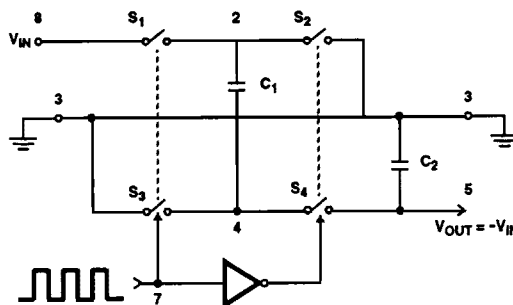
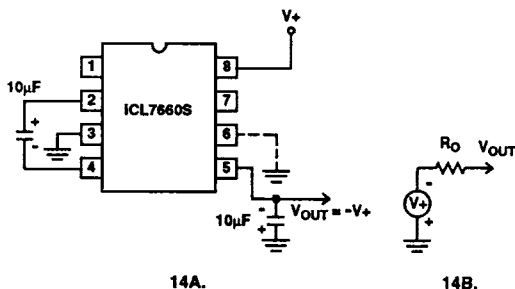
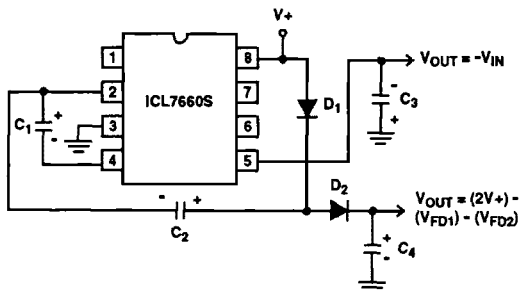

FIGURE 13. IDEALIZED NEGATIVE VOLTAGE CONVERTER
FIGURE 14. SIMPLE NEGATIVE CONVERTER AND ITS OUTPUT EQUIVALENT
FIGURE 21. COMBINED NEGATIVE VOLTAGE CONVERTER AND POSITIVE DOUBLER
The ICL7660S contains all the necessary circuitry to complete a negative voltage converter, with the exception of 2 external capacitors which may be inexpensive 10 μ F polarized electrolytic types. The mode of operation of the device may be best understood by considering Figure 13, which shows an idealized negative voltage converter. Capacitor C₁ is charged to a voltage, V₊, for the half cycle when switches S₁ and S₃ are closed. (Note: Switches S₂ and S₄ are open during this half cycle.) During the second half cycle of operation, switches S₂ and S₄ are closed, with S₁ and S₃ open, thereby shifting capacitor C₁ to C₂ such that the voltage on C₂ is exactly V₊, assuming ideal switches and no load on C₂. The ICL7660S approaches this ideal situation more closely than existing non-mechanical circuits.
In the ICL7660S, the 4 switches of Figure 13 are MOS power switches; S₁ is a P-Channel devices and S₂, S₃ and S₄ are N-Channel devices. The main difficulty with this approach is that in integrating the switches, the substrates of S₃ and S₄ must always remain reverse biased with respect to their sources, but not so much as to degrade their "ON" resistances. In addition, at circuit start up, and under output short circuit conditions (V_{OUT} = V₊), the output voltage must be sensed and the substrate bias adjusted accordingly. Failure to accomplish this would result in high power losses and probable device latchup.
where V₁ and V₂ are the voltages on C₁ during the pump and transfer cycles. If the impedances of C₁ and C₂ are relatively high at the pump frequency (refer to Figure 13) compared to the value of R_L, there will be substantial difference in the voltages V₁ and V₂. Therefore it is not only desirable to make C₂ as large as possible to eliminate output voltage ripple, but also to employ a correspondingly large value for C₁ in order to achieve maximum efficiency of operation.
The majority of applications will undoubtedly utilize the ICL7660S for generation of negative supply voltages. Figure 14 shows typical connections to provide a negative supply where a positive supply of +1.5V to +12V is available. Keep in mind that pin 6 (LV) is tied to the supply negative (GND) for supply voltage below 3.5V.
The output characteristics of the circuit in Figure 14 can be approximated by an ideal voltage source in series with a resistance as shown in Figure 14B. The voltage source has a value of $-V+$. The output impedance (R_O) is a function of the ON resistance of the internal MOS switches (shown in Figure 13), the switching frequency, the value of C_1 and C_2 , and the ESR (equivalent series resistance) of C_1 and C_2 . A good first order approximation for R_O is:
Figure 21 combines the functions shown in Figure 14 and Figure 20 to provide negative voltage conversion and positive voltage doubling simultaneously. This approach would be, for example, suitable for generating $+9\text{V}$ and -5V from an existing $+5\text{V}$ supply. In this instance capacitors C_1 and C_3 perform the pump and reservoir functions respectively for the generation of the negative voltage, while capacitors C_2 and C_4 are pump and reservoir respectively for the doubled positive voltage. There is a penalty in this configuration which combines both functions, however, in that the source impedances of the generated supplies will be somewhat higher due to the finite impedance of the common charge pump driver at pin 2 of the device.